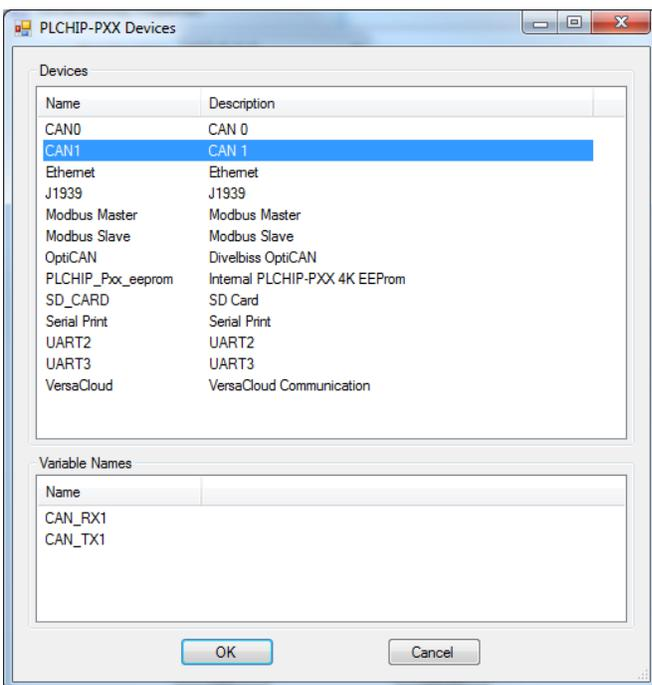

Figure 2-8 - Install CAN1 Device
4. Locate **CAN1** in the *Devices* pane. Click to select (highlight) CAN1. Refer to Figure 2-8. Click **OK**.